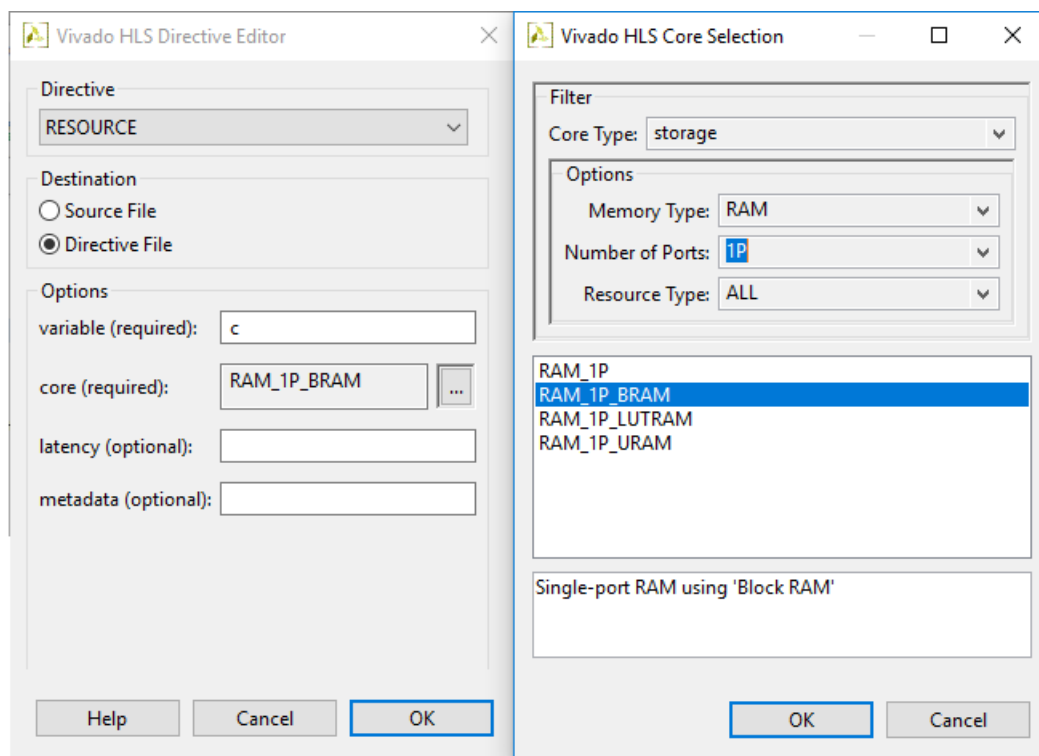

Figure 2-22: Adding a Resource Directive
- c. Select **RAM\_1P\_BRAM**, as shown in Figure 2-22. Then select **OK**.